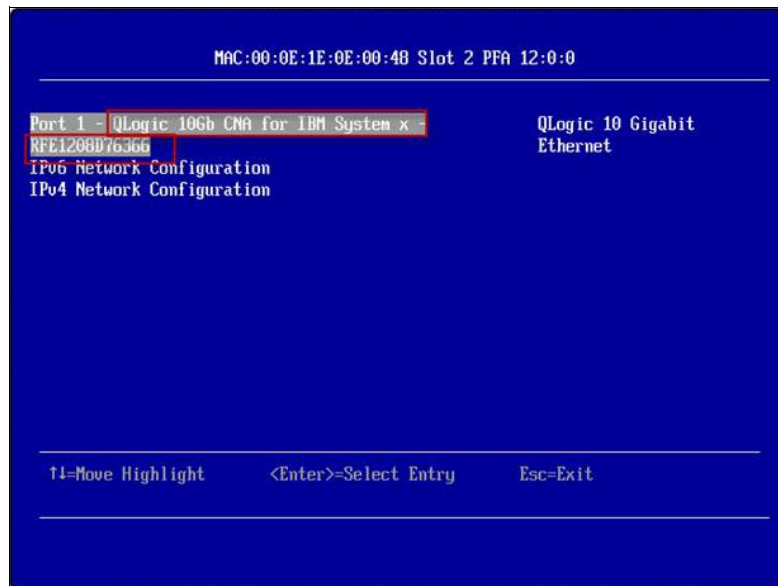

Figure 2-16 F1 setup panel that shows an example output for a QLogic card
- ▶ Run <F1> Setup and follow the same steps as described in “Using <F1> Setup to identify FoD ID” on page 31. Be sure to look for a QLogic Card serial number when you are browsing through the MAC addresses. You are looking for a panel that shows the serial number, as shown in Figure 2-16.